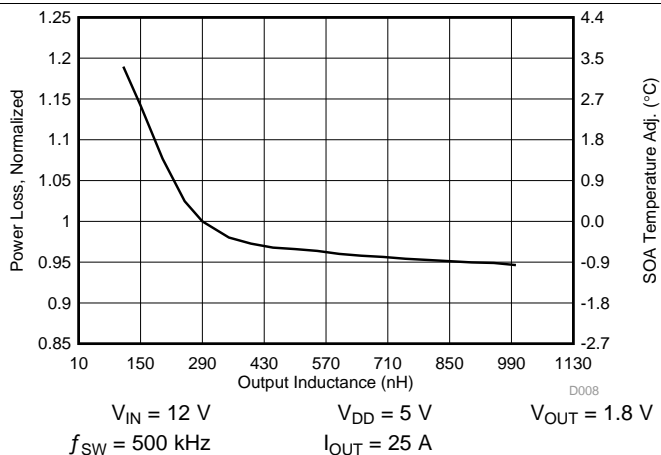

Figure 8. Normalized Power Loss vs Output Inductance
- Normalized power loss for output inductor ≈ 1.08 (Figure 8)
- SOA adjustment for output inductor $\approx 1.4^\circ\text{C}$ (Figure 8)